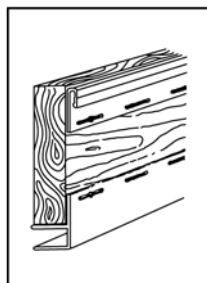

FIG. 33 Installation of Undersill Trim
11.4.1 Install undersill trim molding at the top of the fascia boards. (See Fig. 33.)